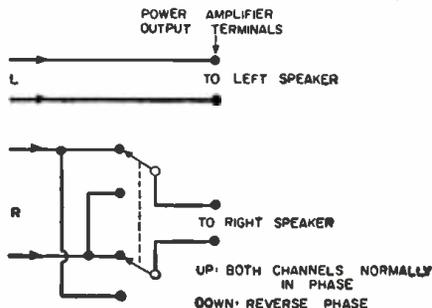
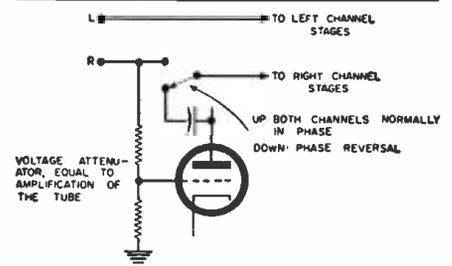

Fig. 13. Phase-reversal switching setup.
Fig. 14. Electronic phase reversal.
5. **Phase Reversal:** This permits the phase of one channel to be reversed 180 degrees. If the stereo amplifier is an integrated unit, containing power amplifiers, this can be accomplished by simply reversing the leads to one set of speaker terminals, as shown in Fig. 13. If the unit is solely a control amplifier, phase reversal must be accomplished electronically, as shown in Fig. 14, by an extra tube stage. The unwanted amplification is offset by a voltage attenuator, either a voltage divider at the grid, as shown in Fig. 14, or a feedback circuit from plate to grid.